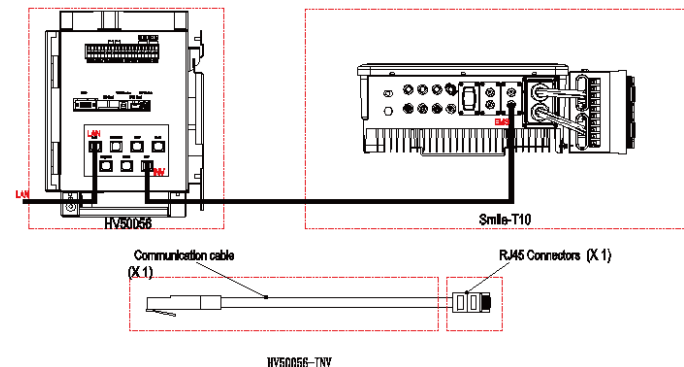

Figure 31 Connection of the Communication Cables on the Inverter Side
Step 11 Connect the communication cable between INV COM port of HV50056 and EMS COM port of the Inverter, as Figure 31 shows.